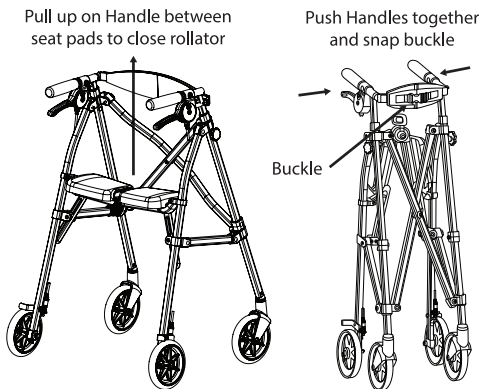

Figure 2
**WARNING:** Keep hands away from center pivot of the seat to avoid any potential pinch points. To close the rollator, pull up on the handle between the seat pads. Push handles together, and snap the buckle as shown in Figure 2.